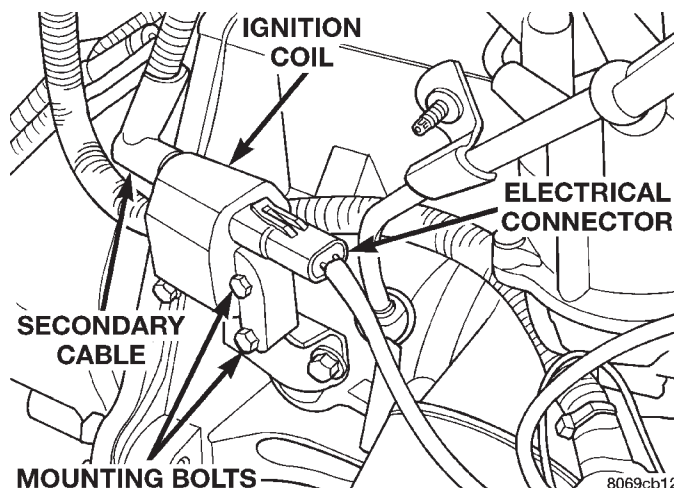
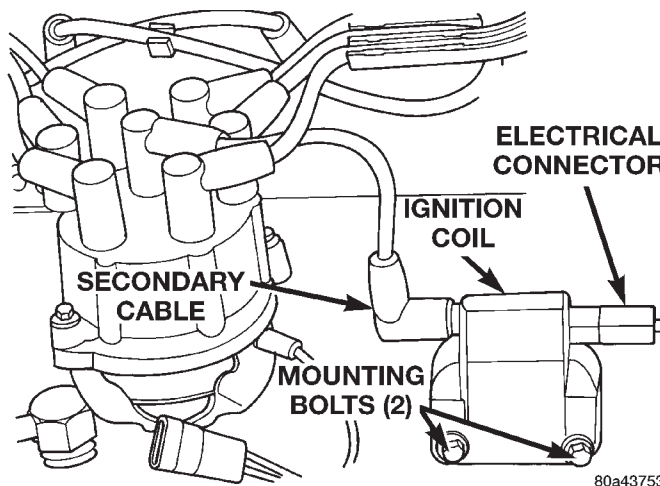
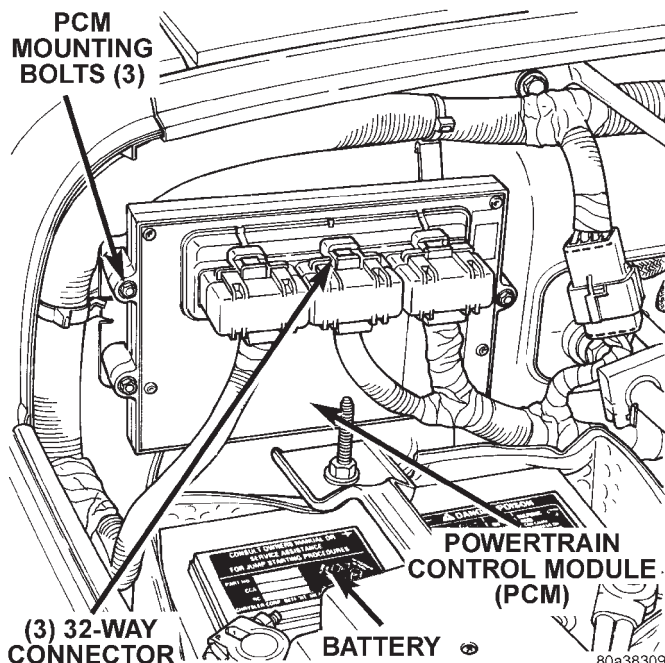

Fig. 11 Ignition Coil—2.5L Engine
Fig. 12 Ignition Coil—4.0L Engine
Fig. 13 PCM and Three 32-Way Connectors
The ignition coil (Fig. 11) or (Fig. 12) is designed to operate without an external ballast resistor.
(1) Unplug the ignition coil electrical harness connector at the coil (Fig. 11) or (Fig. 12).
(2) Connect a set of small jumper wires (18 gauge or smaller) between the disconnected harness terminals and the ignition coil terminals. To determine polarity at connector and coil, refer to Group 8W, Wiring Diagrams.
(3) Attach one lead of a voltmeter to the positive (12 volt) jumper wire. Attach the negative side of voltmeter to a good ground.
(4) Determine that sufficient battery voltage (12.4 volts) is present for the starting and ignition systems.
(5) Crank the engine for 5 seconds while monitoring the voltage at the coil positive terminal:
- If voltage remains at or near battery voltage during the entire 5 seconds, turn the key off. Remove the three 32-way connectors (Fig. 13) from the PCM. Check 32-way connectors for any spread terminals or corrosion.